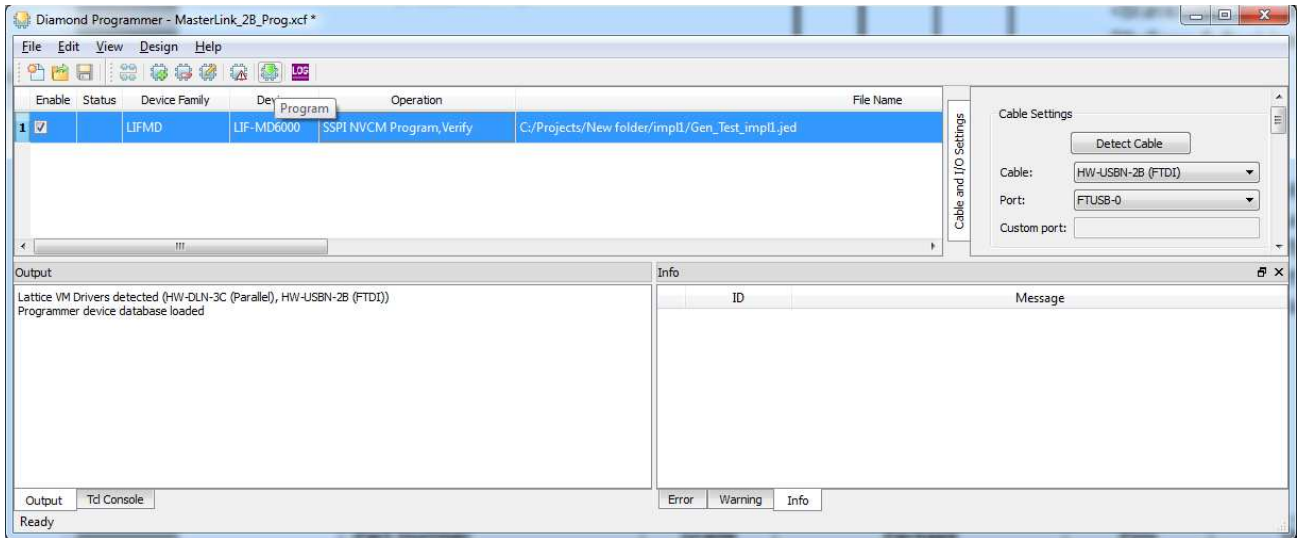

Figure 5.31. CrossLink Family – Program Icon
4. Click the **Program** icon  to program the device as shown in Figure 5.31.